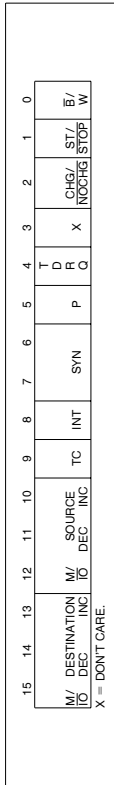

Figure 17. DMA Control Register
words), a 20-bit destination pointer (2 words), a 16-bit Transfer Counter, and a 16-bit Control Word. The format of the DMA Control Blocks is shown in Table 13. The Transfer Count Register (TC) specifies the number of DMA transfers to be performed. Up to 64K byte or word transfers can be performed with automatic termination. The Control Word defines the channel's operation (see Figure 17). All registers may be modified or altered during any DMA activity. Any changes made to these registers will be reflected immediately in DMA operation.